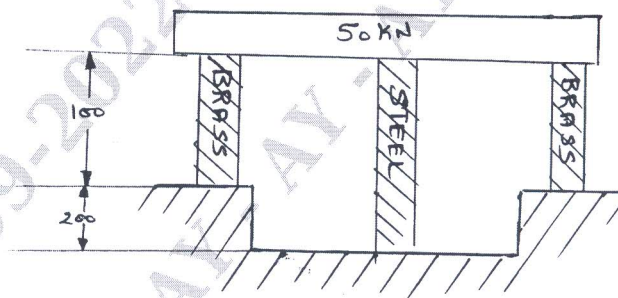

Fig.Q2(b)
- b. A steel rod of cross sectional area 1600mm^2 and two brass rods each of cross sectional area of 1000mm^2 together support a load of 50kN as shown in Fig.Q2(b). Find the stresses in the rods, E for steel is $2 \times 10^5\text{N/mm}^2$, E for brass $1 \times 10^5\text{N/mm}^2$. Also find the load carried by each bar and shortening in length of each.